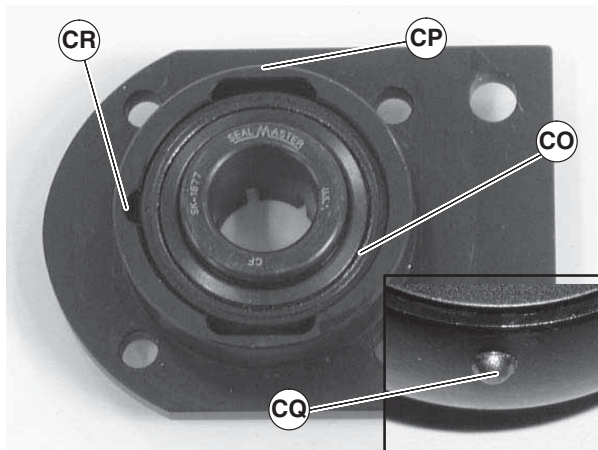

Figure 79
2. Insert bearing (Figure 79, item CO) into housing slot (CP). Locate anti-rotation nub (CQ) to align with slot (CR), and twist bearing into housing.